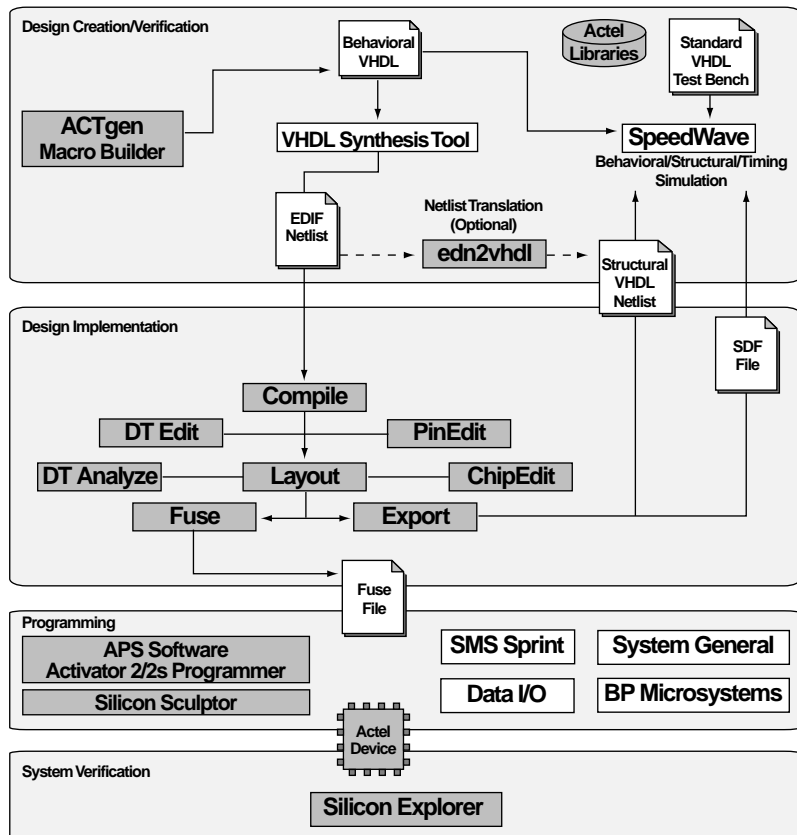

Figure 2-2. Actel-Viewlogic VHDL Synthesis-Based Design Flow
Figure 2-2 shows the VHDL synthesis-based design flow for an Actel device using the Powerview and Designer Series software¹.
1. Actel-specific utilities/tools are denoted by the grey boxes in Figure 2-2.